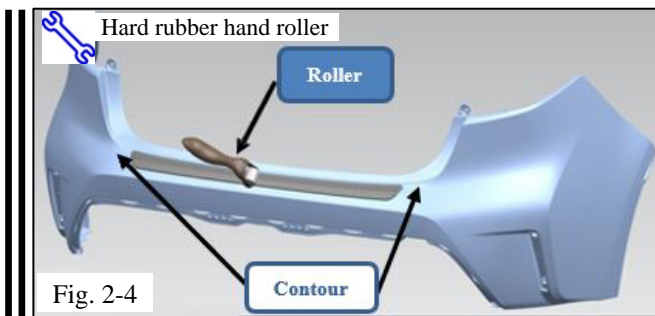

Fig. 2-4
- (f) The protector lip should align with the contour of the bumper surface (Fig. 2-4).
- (g) Once the exposed tape has been secured, pull out and discard all the liners to allow full tape contact with the rear bumper (Fig. 2-4).